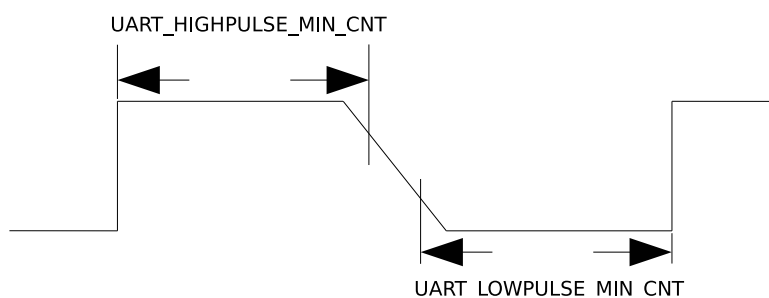

Figure 28.4-2. The Timing Diagram of Weak UART Signals Along Negative Edges
Automatic baud rate detection (Autobaud) on UARTs is enabled by setting `UART_AUTOBAUD_EN`. The Baudrate_Detect module shown in Figure 28.4-2 filters any noise whose pulse width is shorter than `UART_GLITCH_FILT`.
2. If UART signals are weak along negative edges as shown in Figure 28.4-2, which leads to an inaccurate average of `UART_LOWPULSE_MIN_CNT` and `UART_HIGHPULSE_MIN_CNT`, use `UART_POSEDGE_MIN_CNT` to determine the transmitter's baud rate as follows: